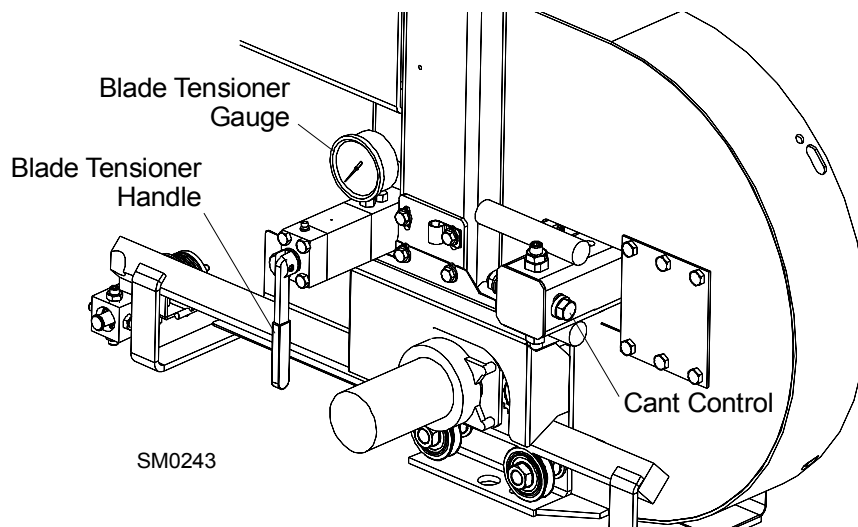

FIG. 2-5
See **Figure 2-5**. Tension the blade by turning the hydraulic tensioning handle clockwise until the tension gauge indicates the recommended tension.
5. To adjust where the blade travels on the blade wheels, use the cant control shown in **Figure 2-5**.